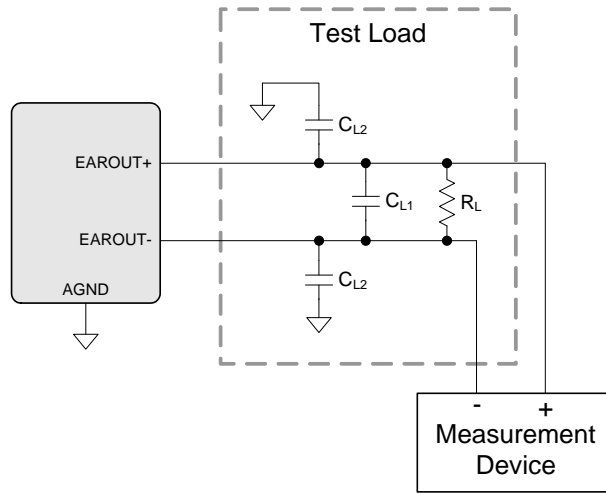
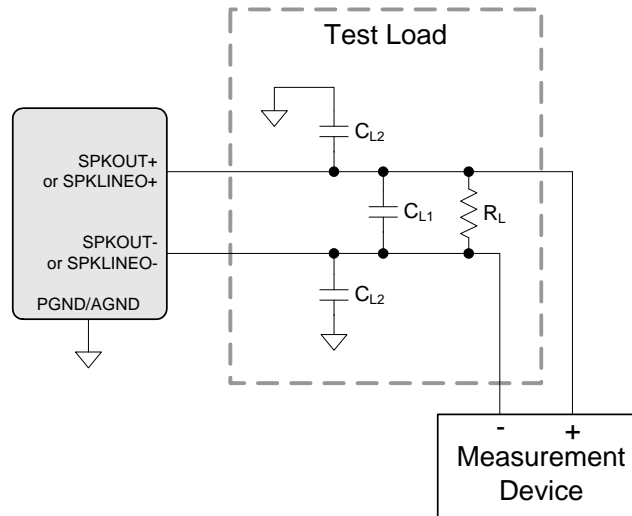

Figure 7. Ear Speaker Output Test Configuration
Figure 8. Speakerphone and Speakerphone Line Output Test Configuration
Test conditions (unless otherwise specified): Connections to the CS42L73 are shown in the “Typical Connection Diagram” on page 17; Input test signal is a 24-bit full-scale 997 Hz sine wave with 1 LSB of triangular PDF dither applied; GND = AGND = PGND = CPGND = DGND = 0 V; all voltages are with respect to ground (GND); VA = 1.80 V; T_A = +25 °C; Measurement Bandwidth is 20 Hz to 20 kHz; Fs = 48 kHz (Note 9); ASP is utilized and is in slave mode with F_{s_ext} = 48 kHz; test loading is configured as per Figure 7 on page 34 (R_L, C_{L1}, and C_{L2} as indicated in the table below for R_{L(Min)}, C_{L1(Max)}, and C_{L2(Max)}); Mixer Attenuation = 0 dB, Digital Volume = -2.5 dB, Digital Mute is disabled.
39. Refer to Figure 7 on page 34 and Figure 8 on page 36 to observe Ear-Speaker, Speakerphone, and Speakerphone-Line-Output test configurations.
Test conditions (unless otherwise specified): Connections to the CS42L73 are shown in the “Typical Connection Diagram” on page 17; Input test signal is a 24-bit full-scale 997 Hz sine wave with 1 LSB of triangular PDF dither applied; GND = AGND = PGND = CPGND = DGND = 0 V; all voltages are with respect to ground (GND); VA = 1.80 V, VP = 3.70 V; TA = +25 °C; Measurement Bandwidth is 20 Hz to 20 kHz; Fs = 48 kHz (Note 9); ASP is utilized and is in slave mode with F_{Sext} = 48 kHz; test loading is configured as per Figure 8 on page 36 (R_L, C_{L1} (= C_{L1(Max)}) and C_{L2} (= C_{L2(Max)}) as indicated in the table below); Mixer Attenuation = 0 dB, Digital Volume = -5.5 dB, Digital Mute is disabled, SPK_LITE_LOAD = 0b and 1b for R_L = 8 Ω and 50 kΩ, respectively.
Test conditions (unless otherwise specified): Connections to the CS42L73 are shown in the “Typical Connection Diagram” on page 17; Input test signal is a 24-bit full-scale 997 Hz sine wave with 1 LSB of triangular PDF dither applied; GND = AGND = PGND = CPGND = DGND = 0 V; all voltages are with respect to ground (GND); VA = 1.80 V, VP = 3.70 V; TA = +25 °C; Measurement Bandwidth is 20 Hz to 20 kHz; Fs = 48 kHz (Note 9); ASP is used and is in slave mode with Fs_{ext} = 48 kHz; test loading is configured as per Figure 8 on page 36 (RL, CL1, and CL2 as indicated in the table below for RL(Typ), CL1(Max), and CL2(Max)); Mixer Atten. = 0 dB, Digital Mute is disabled.